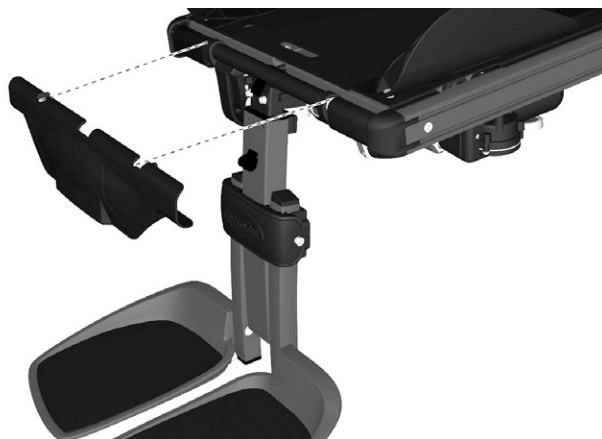

Figure 85. Mount the leg rest's top cover by carefully pulling it straight out.
5. Mount the leg rest's top cover by carefully pressing its bracket into place on the leg rest's axle. See fig. 85.